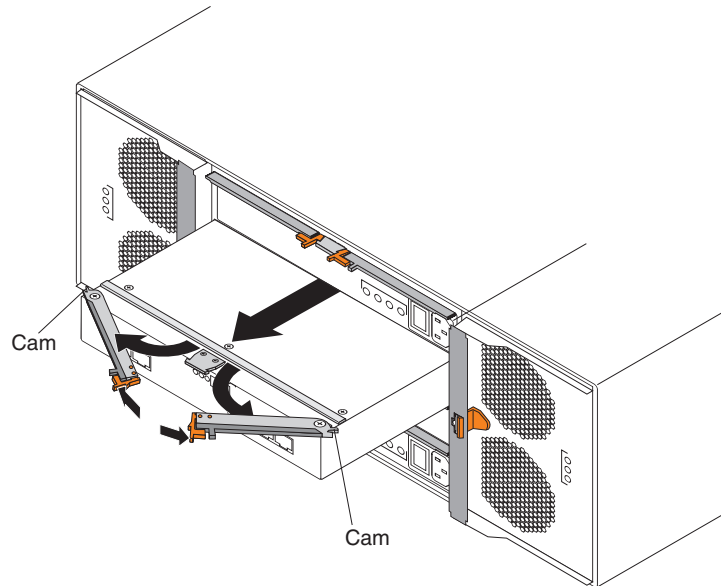

Figure 54. Removing and replacing an Environmental Service Module (ESM)
7. Squeeze the latches together and pull the levers open to release the ESM from the enclosure. The latches are the orange colored tabs on the levers (see Figure 54 on page 115).